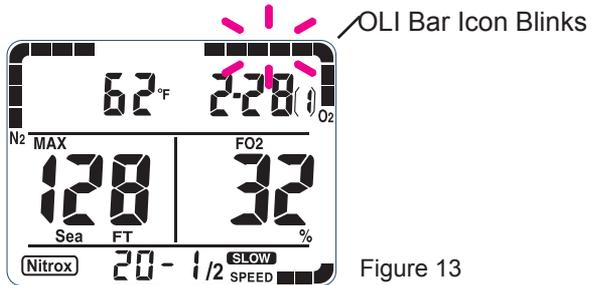

Figure 13
**OLI warning:** If the OLI reaches 8 bars, the warning is stored in memory and displayed in log mode. (Fig. 13)